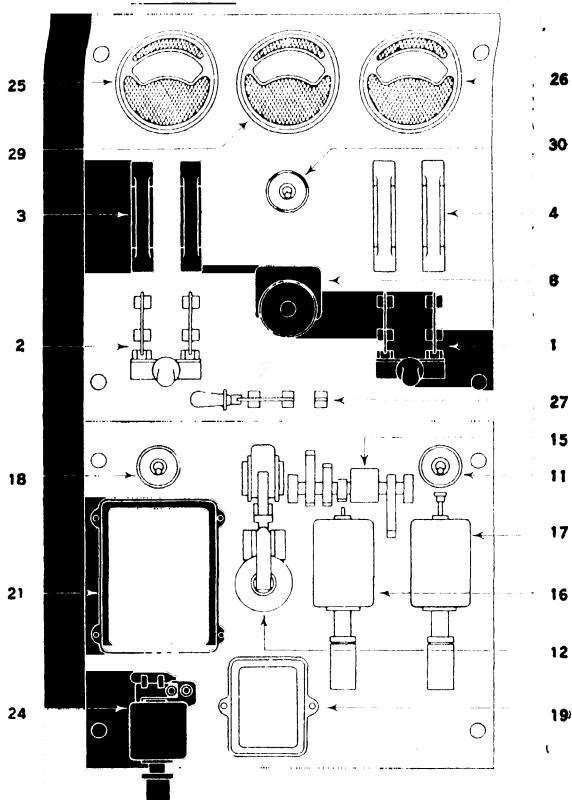
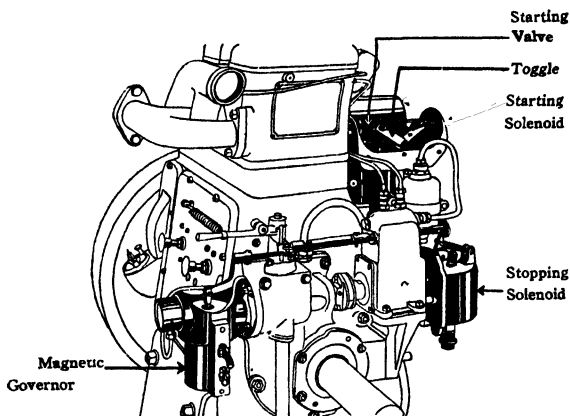

FIG. 18. - SWITCHBOARD FOR AUTOMATIC DIESEL-GENERATING SET WITH FLOATING BATTERY.
FIG 21.—AUTOMATIC EQUIPMENT ON DIESEL ENGINE OF 10 kW PLANT
Numbering of components as in Fig. 18 with following additions: (9) Starting Valve Solenoid on engine; (13) Starting Contactor Coil; (14) Stopping Solenoid or Fuel Cut-off Solenoid on engine; (28) Magnetic Governor on engine for ensuring constant voltage. The various automatic components fitted on the engine are shown in Fig. 21.
See also Figs. 18, 19 and 21.